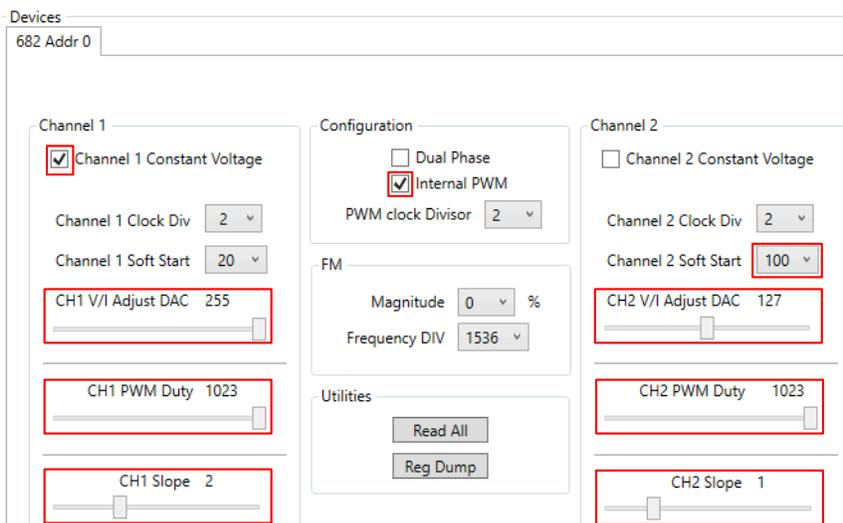

Figure 7-8. Devices Window Setting
Apply the settings shown in Figure 7-8.
- By default CHx-Slope is set to code "5", which corresponds to 250 mV of peak slope. For the TPS92682EVM-125, it is recommended to set the slopes for two channels to a code "2" and "1" as shown in Figure 7-8